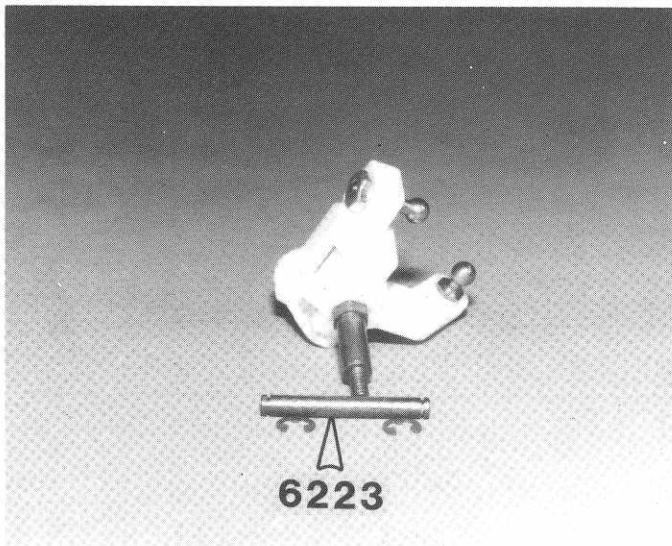

Fig. 12
□ **Figs. 12 & 12a** Line up the steering block in the block carrier, as shown, and push the #6223 king pin through. Now, install "E" clips on the top and bottom ends of the pin. If you run out of "E" clips, there are extras in the shock bags. Install the R.H. steering block.